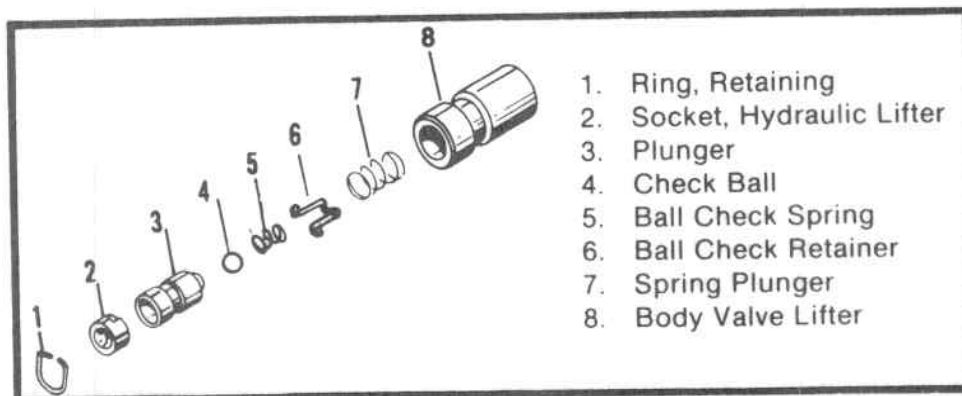

FIGURE 72-20-18. HYDRAULIC LIFTER.
72-20-18 HYDRAULIC VALVE LIFTERS (See Figure 72-20-18). Stand valve lifter on its flat end. Use a small screwdriver and carefully pry snap ring (1) from body groove, holding down socket (2) with a pushrod until ring has been removed. Invert lifter and catch socket as it drops out. Insert a finger into plunger (3) and withdraw plunger (3), spring (7) and check valve assembly (3, 4, 5, 6). If plunger is stuck in body (8), hold plunger down fully and scrape out carbon deposit. If this obstruction cannot be removed, or if plunger is seized by score marks, the entire assembly must be replaced. Remove spring (7) by turning as if to unwind it while pulling outward. Be careful not to stretch spring out of shape. Remove check ball (4) from plunger by removing retainer (6), lifting spring (5) and ball (4).